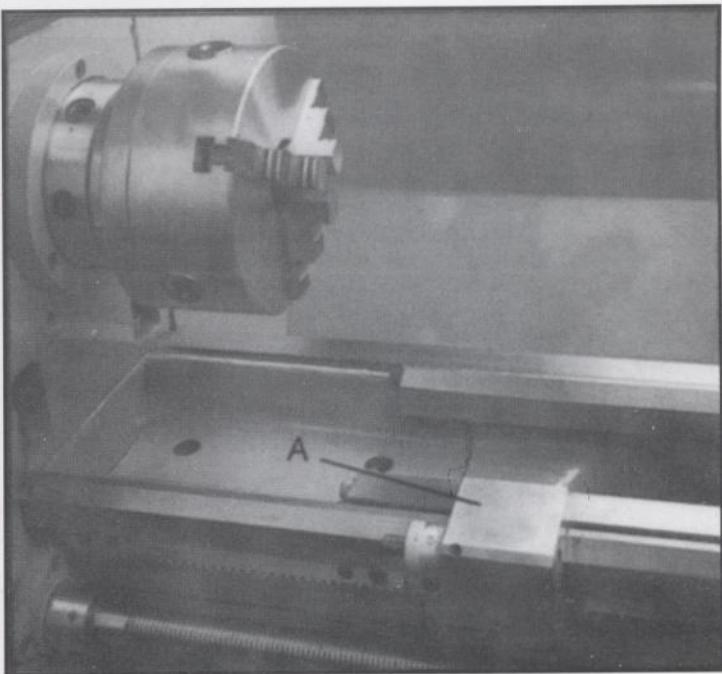

Fig.15
24. Micro Carriage Stop (A, Fig.15) - located on the lathe bed. Loosen two hex socket cap screws underneath body and slide along bed to desired position. Tighten screw to hold in place.